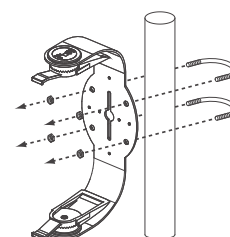

FIGURE 6:
3. If the installation requires that the speaker be mounted on a pole you can attach the FastMount brackets to the pole using 2.5" U-bolts (not included) (see figure 6).